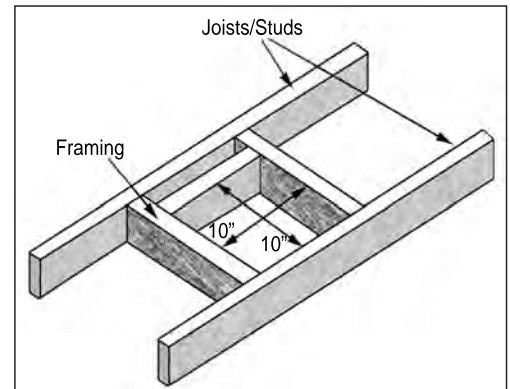

Figure 38. Vent Framing For Wall or Ceiling.
Step 1: Using a T20 screwdriver remove the vent collar, base plate, cover plate and 4" exhaust spigot (28 screws total) as shown in Figure 38. The vent collar, base plate, and 4" exhaust spigot will no longer be used.